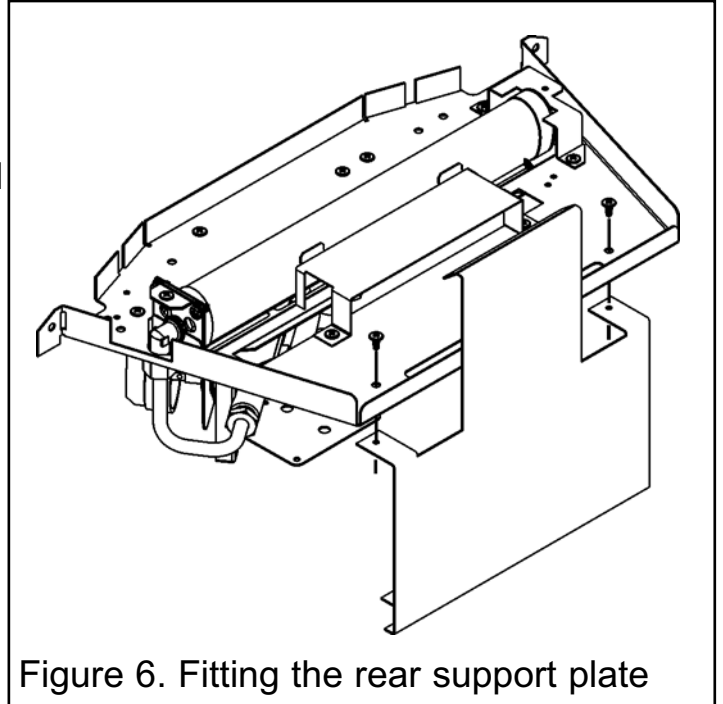

Figure 6. Fitting the rear support plate
**5.3.1** Prior to installation of the burner the rear ceramic support bracket must be fitted (See figure 6). Secure with two self-tapping screws but do not over-tighten as these will have to be removed again when installing the burner.